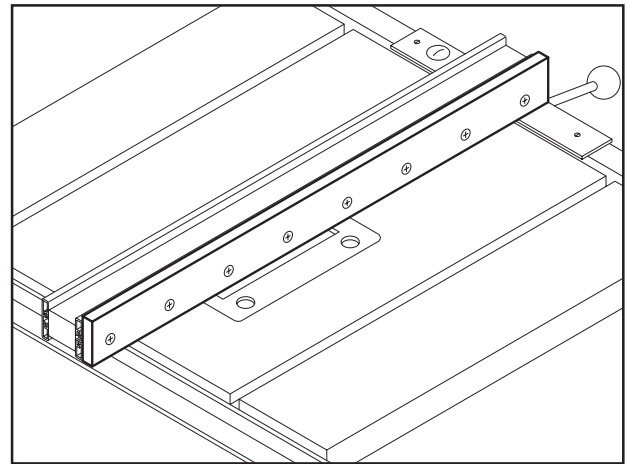

Figure 55. Auxiliary fence.
4. Thread the flat head screws through the auxiliary fence and into the hex nuts in the standard fence, and tighten securely as shown in **Figure 55**.